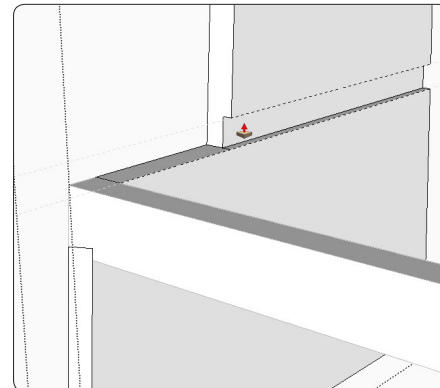

Figure 15. Create dados in the sides to hold the middle and bottom steps.
Step 11 Place guide lines to mark the $\frac{3}{4}$ -in. wide dados in the side component, which hold the middle and bottom steps. Draw a line over those guide lines, then use the Push/Pull Tool to create $\frac{1}{4}$ -in.-deep dados (Figure 15).